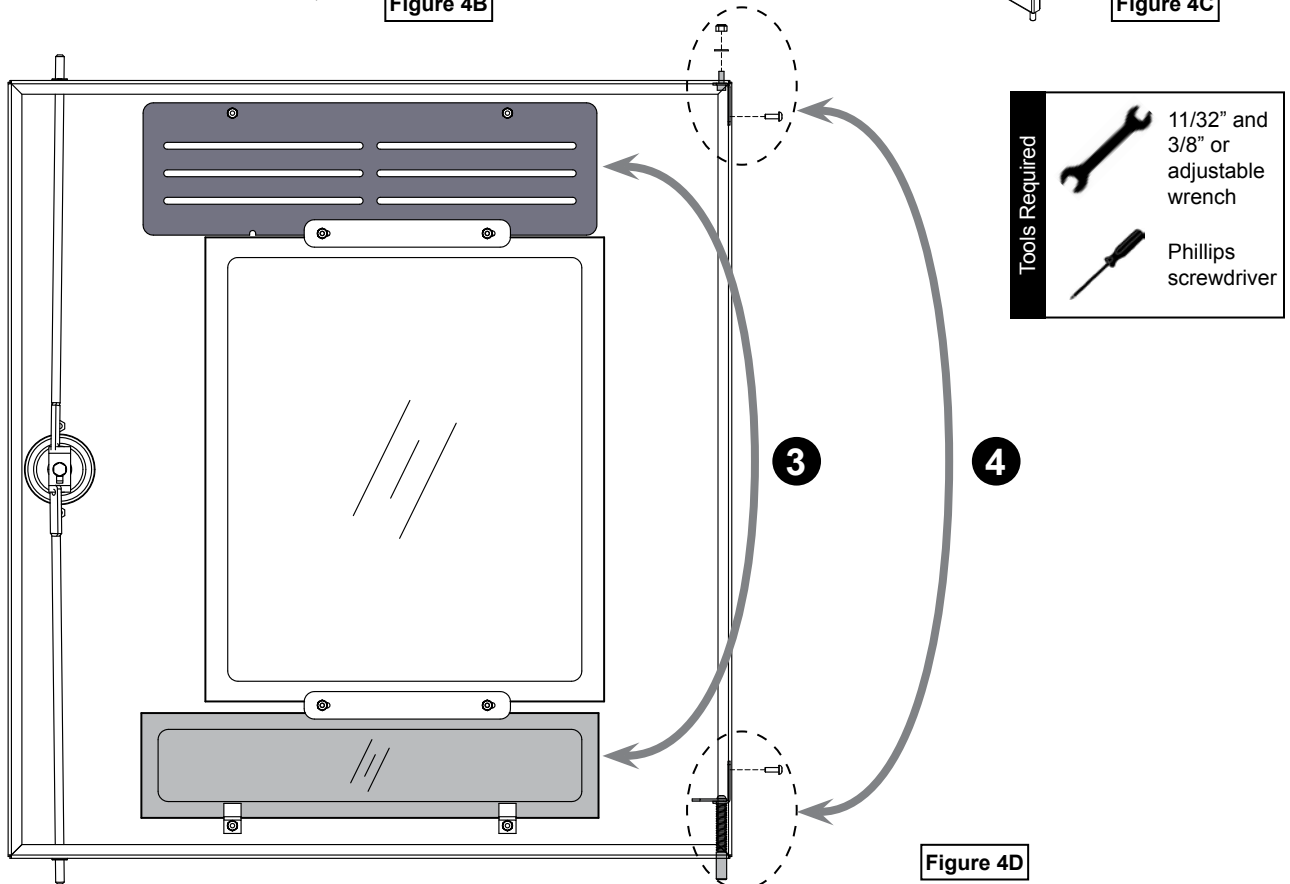

Figure 4D
3. The vented panel should be located on the bottom of the door. Switch the lower vented metal panel with the upper acrylic panel (requires removing or loosening 8-32 nuts.) **Figure 4D.**